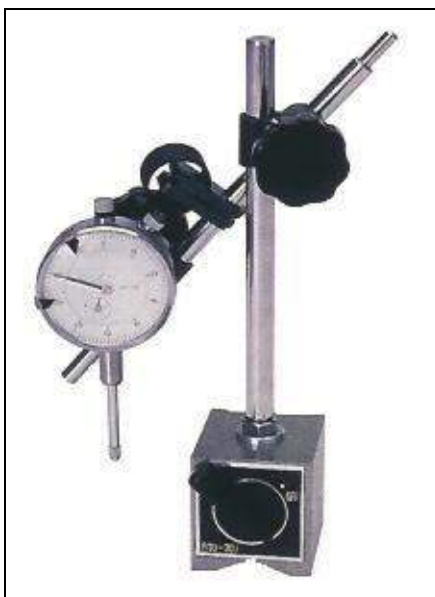

Figure 3-6: Rotor Dial Indicator
- **Rotor thickness measurements may be checked with the rotor installed or removed from the truck. Use a dial gauge to check run-out. Use a calibrated micrometer, calibrated in ten-thousandths of an inch, to check thickness. See Figure 3-6.**